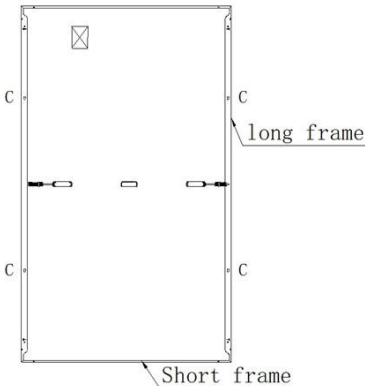

Figure 3 Back of module
(1) Installation situation of the long side frames of module vertical to fixed bracket as shown in figure 3-a